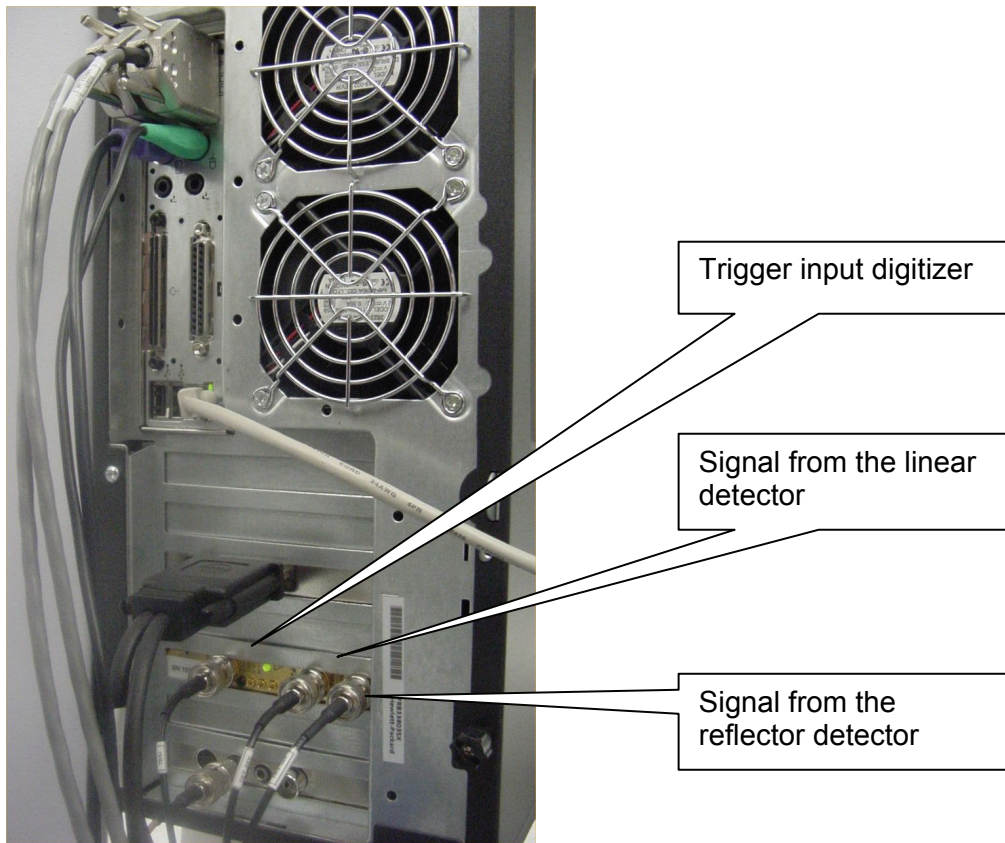

Figure 2-1 Connection at the rear of the PC
3. Plug the data system end of the signal cable connections into the appropriate connections (Figure 2-1).